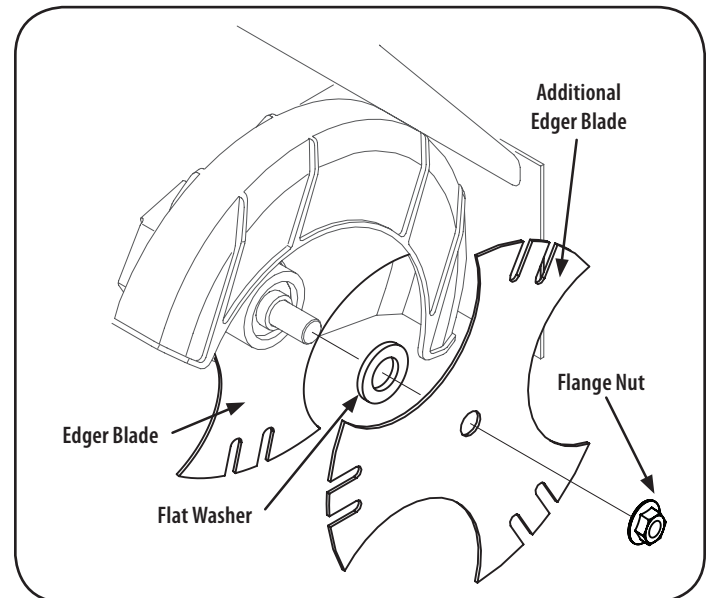

Figure 12
1. Use two wrenches (one wrench to prevent hex bolt head from spinning and the other to unthread the flange nut) to remove flange nut that secures edger blade, leaving the edger blade in place. See Figure 12.
2. Install the flat washer and additional edger blade supplied with your machine. See Figure 12.